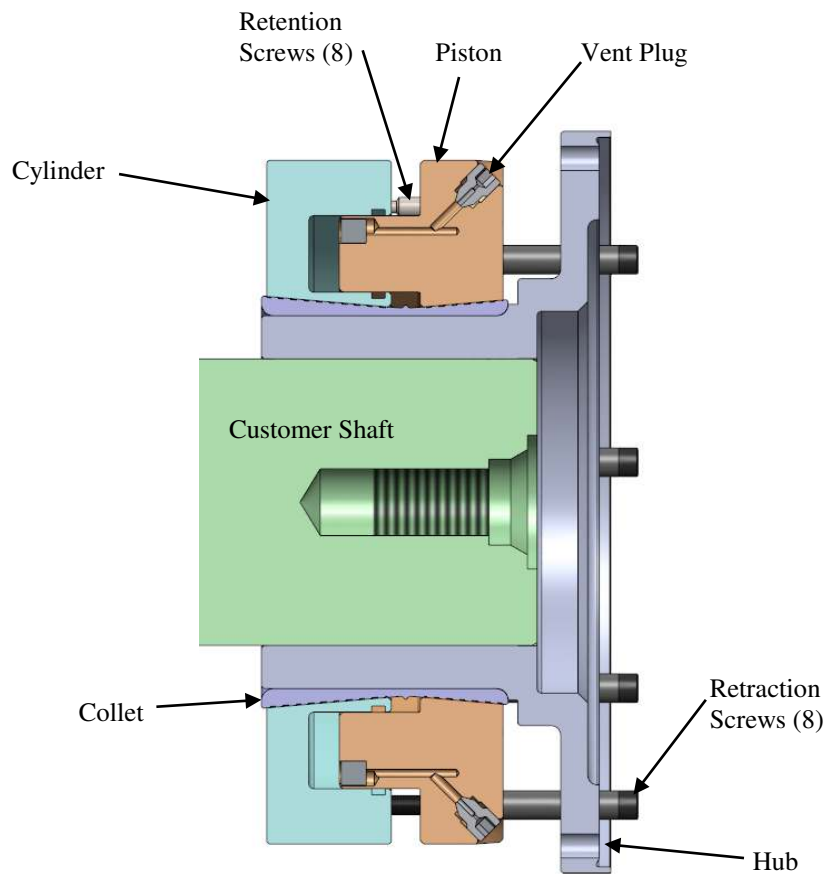
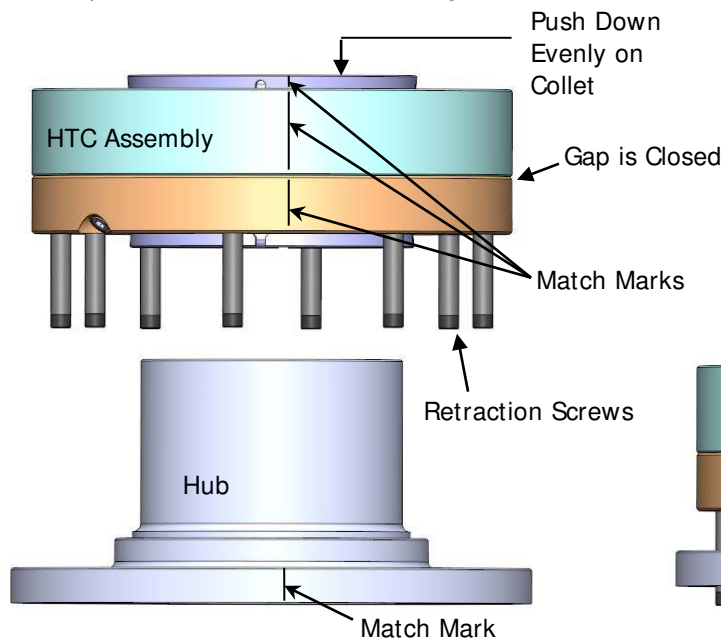
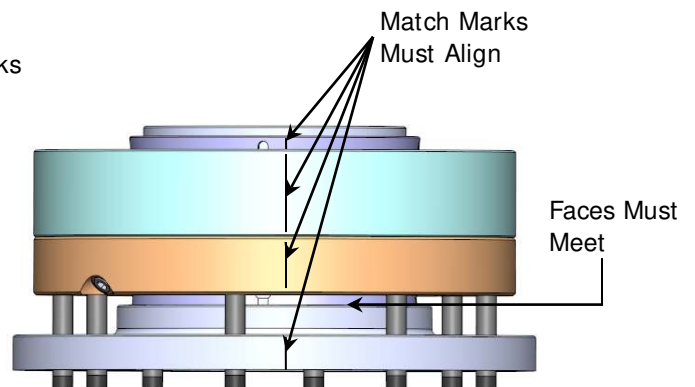

Figure 1a – HTC/ Hub Assembly Cross-Section
Figure 3a
Figure 3b
The Hydraulic Torque Coupler (HTC) connects the hub to the shaft. It accomplishes this by squeezing the hub OD with very high pressure. This pressure forces the hub to squeeze down onto the shaft producing a tight fit. Squeeze is produced when hydraulic pressure is applied. This separates the piston and cylinder of the HTC. As these rings separate, they ride up the slopes of the collet generating interference. Figure 1a shows the hub mounted on the shaft using an HTC. Prior to assembly, the hub and shaft have been machined to produce a keyless, cylindrical slip fit.
3.3.1 Remove the vent plugs (see Figure 1a). Tighten the retraction screws to 10-15 ft-lbs. Be sure the gap is closed (see Figure 3a).
3.3.2 Put the hub face down on a table. Align the match marks on the collet, Hub, and HTC to as shown in Figure 3a to ensure proper balance. Slide the HTC onto it until stop as shown in Figure 3b. Be sure to slide the HTC onto the hub evenly as there may be a slight interference fit. Always push on the COLLET, not on any other component of the HTC when sliding the HTC on hub.
3.3.4 Verify that the match marks are properly aligned as in Figure 3b.
3.3.6 Again verify the match marks are aligned as in Figure 3b.